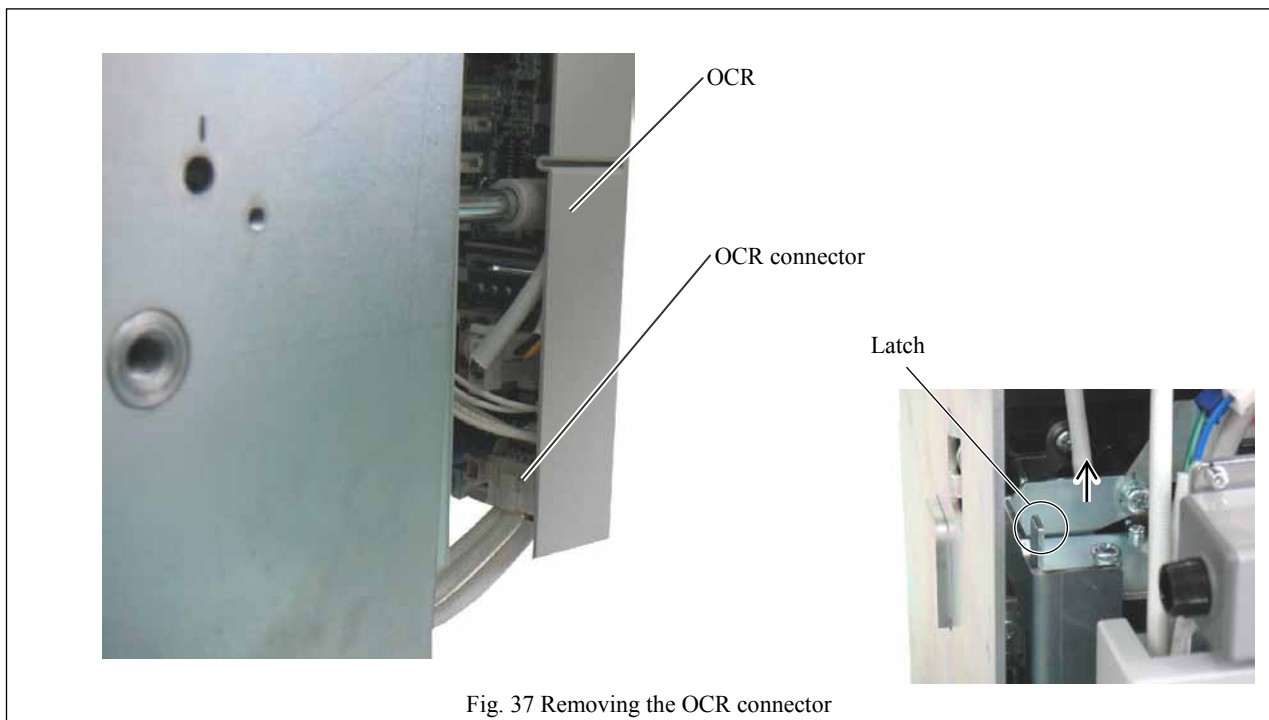

Fig. 37 Removing the OCR connector
- 6) Raise the OCR to unlatch from other parts, remove the OCR and place it on the top of the breaker body. See Fig. 37.